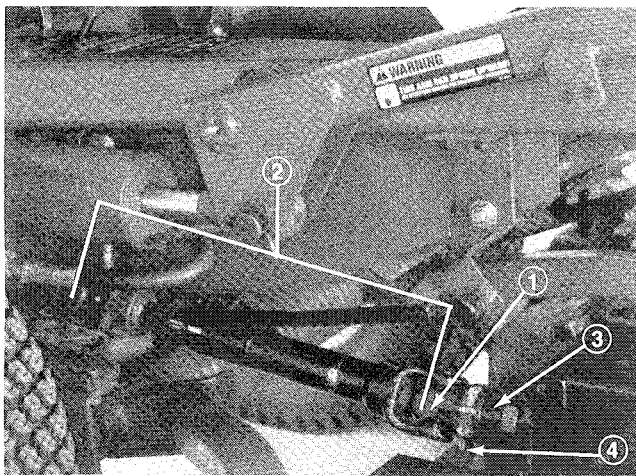

Figure 11
1. Line up holes in yoke and input shaft of gear box. Slide yoke onto shaft (Fig. 11) and secure parts together with roll pin (3/16 x 1-1/2 in.) (38 mm). Tighten (2) capscrews and locknuts securing yoke to input shaft.